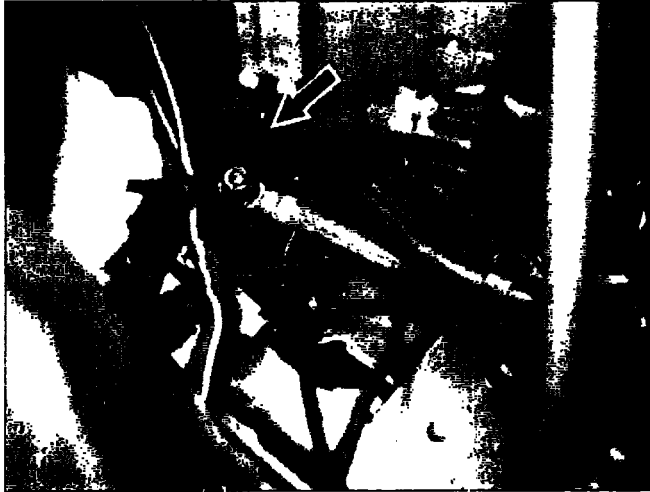
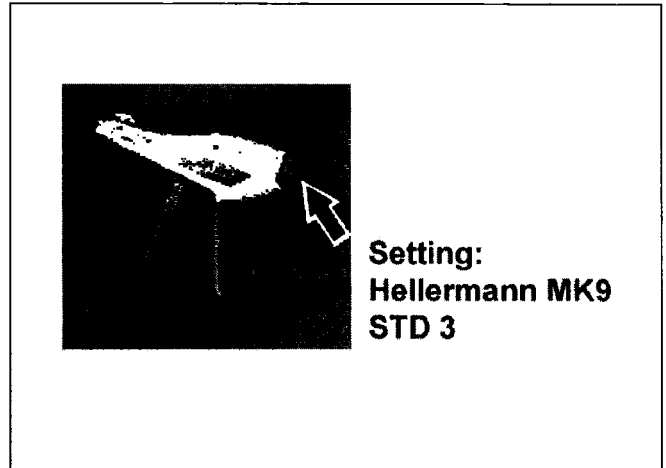

Figure 22
Figure 23
- Ensure cable tie (arrow, Figure 22) was properly affixed using cable tie pliers (Hellermann MK9; special tool number W 352 589 02 37 00); use **setting 3 on cable tie pliers**, as shown in Figure 23.